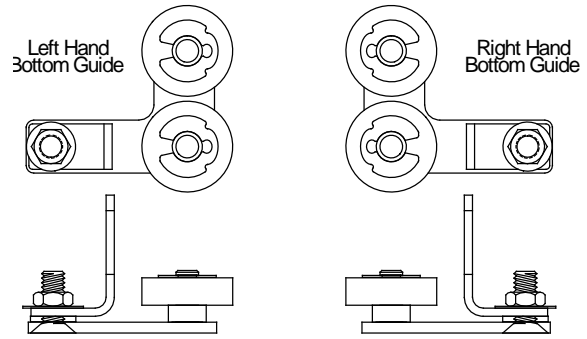

Figure 29
1. Locate the bottom guide assembly in the parts box. (See Figure 29)